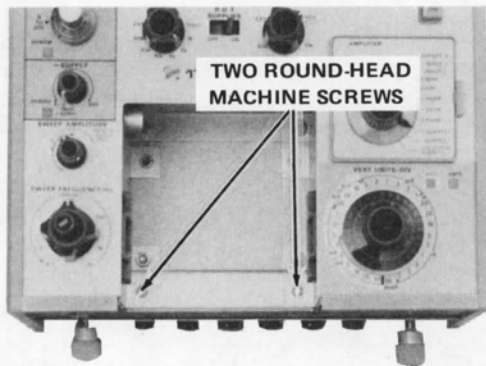

Fig. 4-11. Location of the screws in the storage compartment.
2. Remove the two round-head machine screws (Fig. 4-11) at the front of the storage compartment.